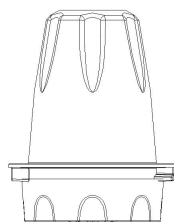

Fig.4
3. Place the grinder attachment on the motor unit, Please see Fig. 4